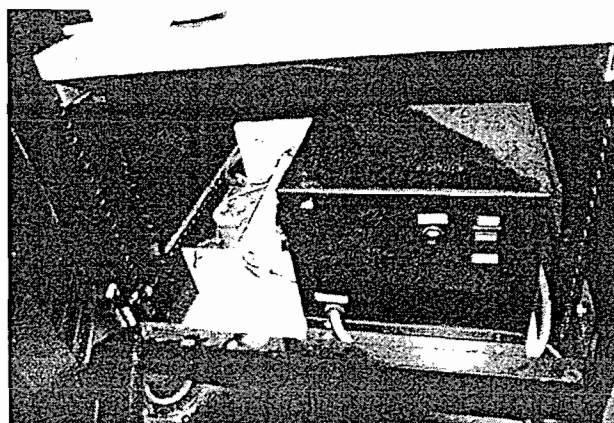

Figure 2.3.3: Gantry Power Supply and Power Transformer
2.3.8 Verify that all electrical equipment is off (Figure 1.5). Also check the Control Cabinet to ensure that the Gantry power supply and Power transformer is off. (Figure 1.5-d and Figure 2.3.3)